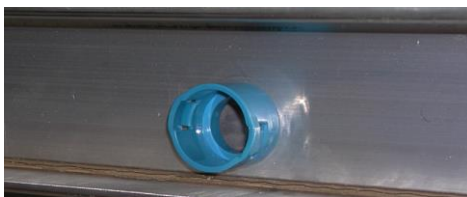

Figure 3: Conduit Hole in Scale Frame
- This is a rectangular frame so it is important to check the placement specifications to make sure the conduit connection is properly placed facing the wall where the conduit/cable connection is located. There are holes cut for conduit entry in the center of two sides of the frame so the scale can be placed with either the long or short side against wall (Figure 3). Run conduit/cable through hole and into pit area.